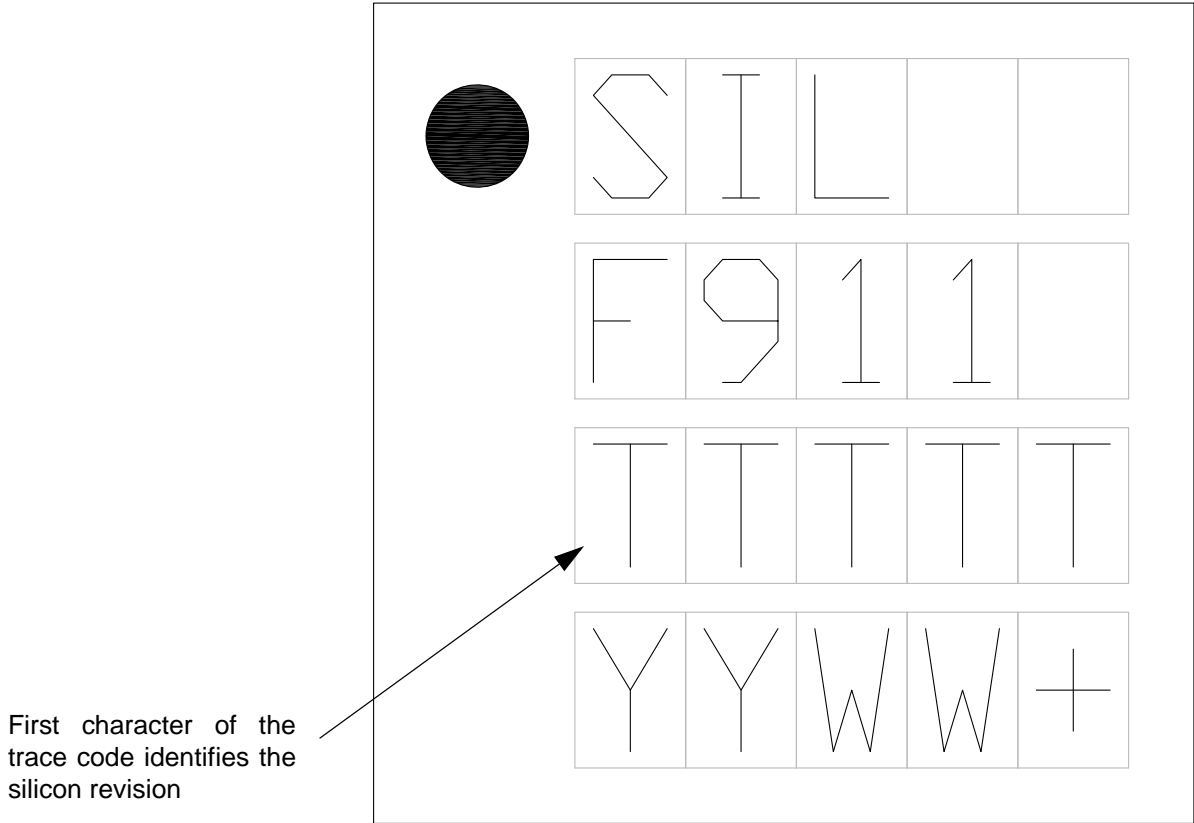
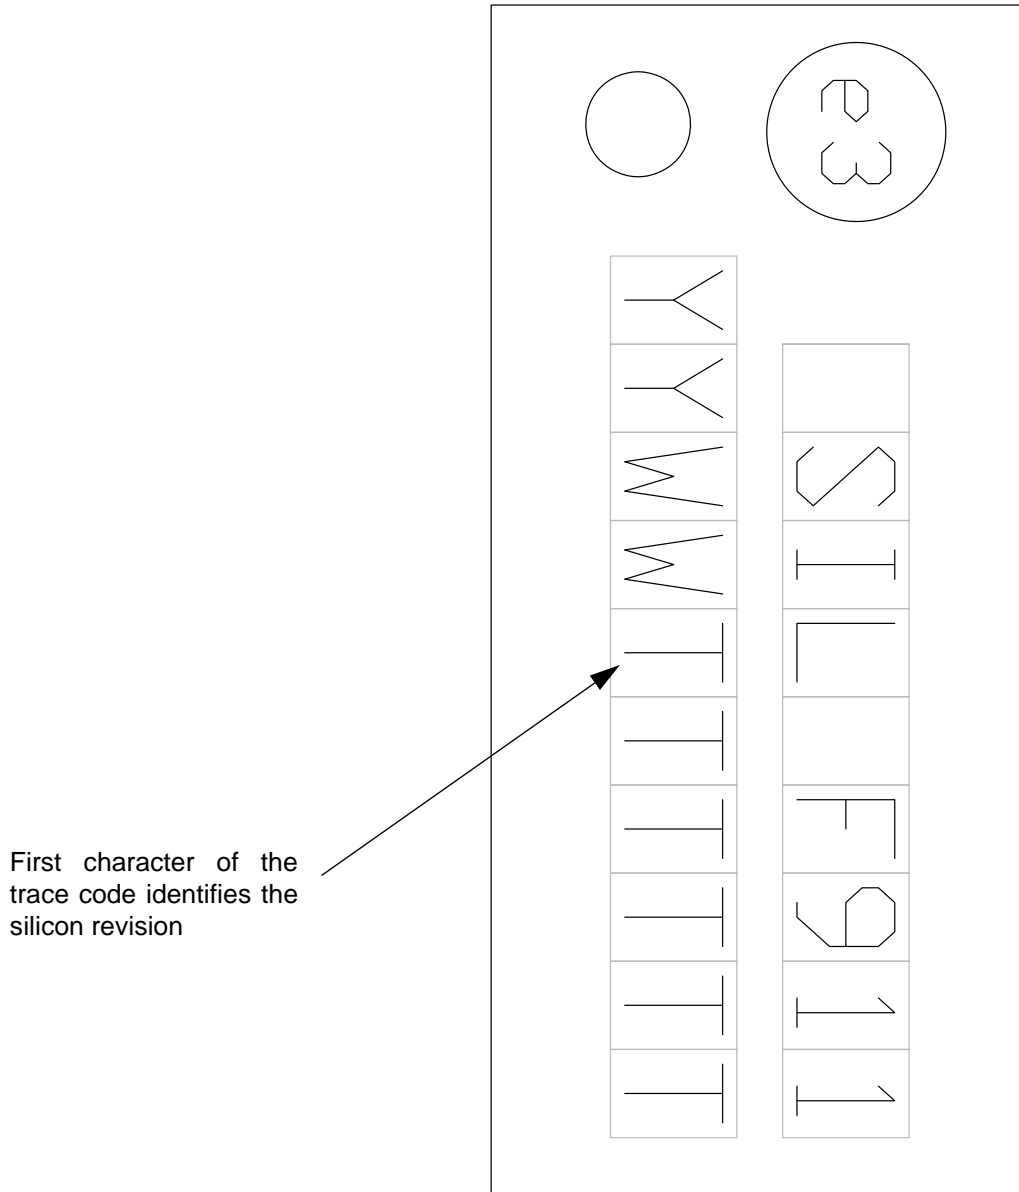

Figure 3.3. QFN-24 Package Marking Diagram
Figure 3.4. QSOP-24 Package Marking Diagram
1. Starting with silicon revision C, the ordering part numbers have been updated to include the silicon revision and use this format: "C8051F912-C-GM". Package marking diagrams are included as Figure 3.3 and Figure 3.4 to help identify the silicon revision.